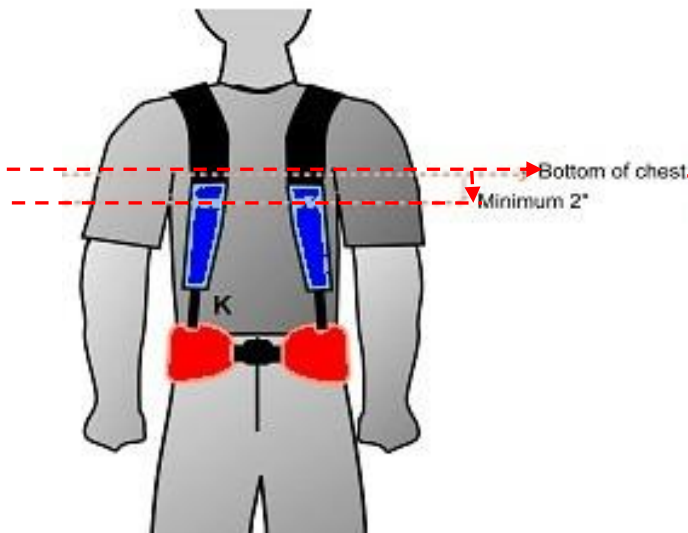
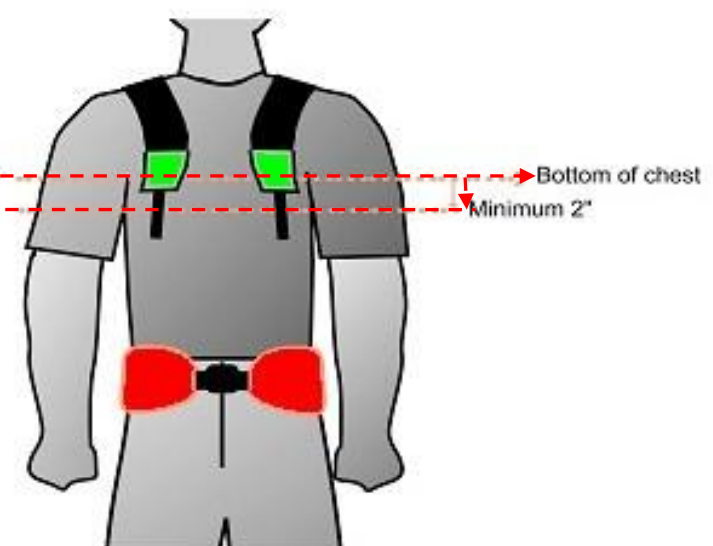
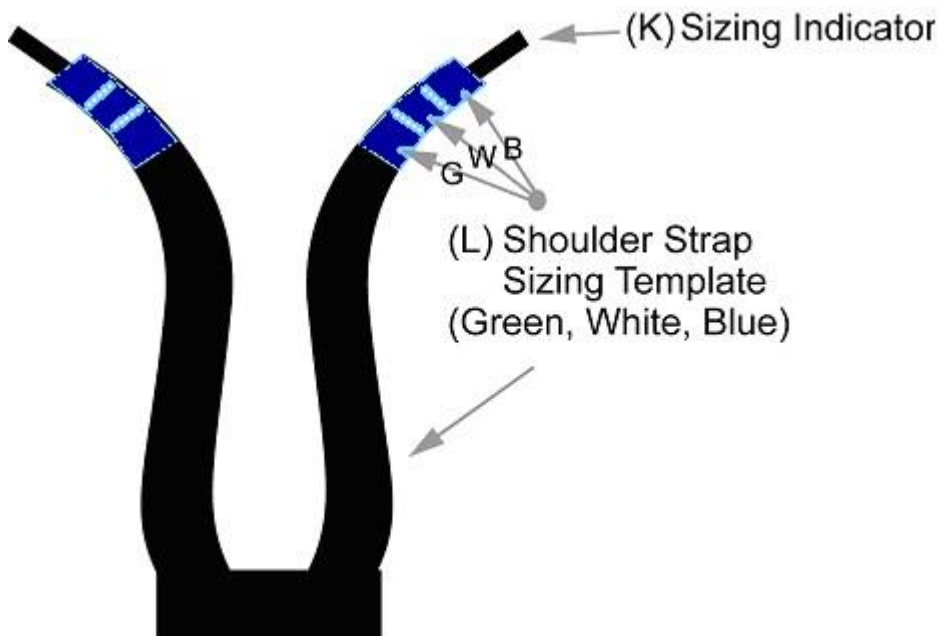

Figure 16
Figure 17 INCORRECT
Figure 18 – Shoulder Strap Sizing template
20. Each Shoulder Strap Sizing Template, Figure 18-L, has a Sizing Indicator or "Go No Go" gauge, Figure 14-K (3/4" x 4" black nylon tape), attached to its end. The 4" "Go - No Go" gauge represents the minimum shoulder strap adjustment. Should the Sizing Indicator overlap the Hip Belt Template the shoulder strap size is deemed to be too large, Figure 16. If the Shoulder Strap Template does not extend past the bottom of the chest by a minimum of 2" it is deemed to be too short, Figure 17.